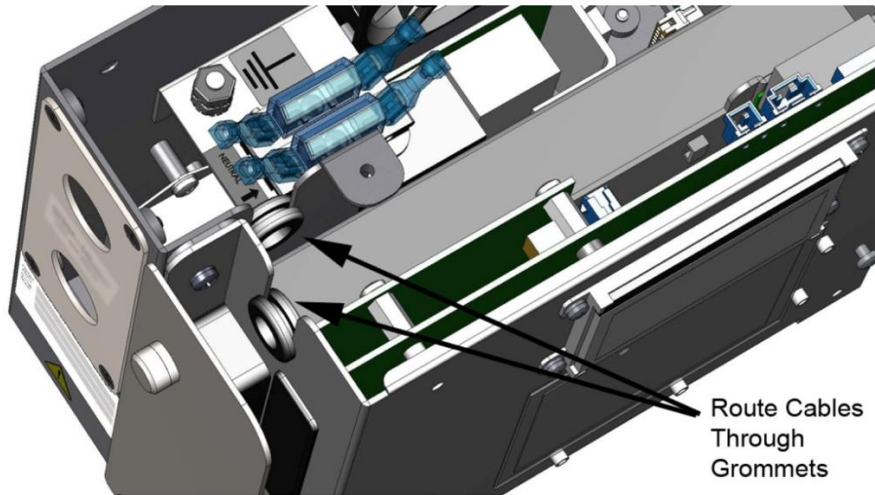

Figure 12: Routing the I/O Cables
4. Route the cables through the first grommet and then through the second grommet, to the I/O terminal blocks (see Figure 12: Routing the I/O Cables). If needed, you can cut a notch in the grommets to make wire manipulation easier.